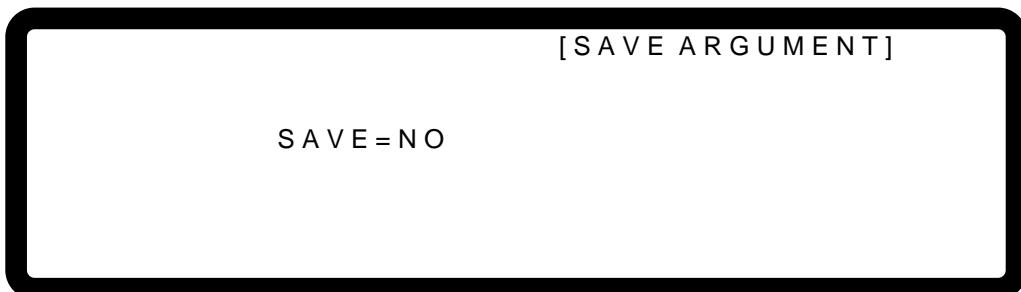

Figure 3-116
13. The current calibration is done once the above actions are completed. To save the calibration data, press “” to display the confirmation page as shown in Figure 3-116. Press “” or turn the “Rotary” () to set SAVE=YES and press “” to save it. If there is no need to save it, press “” to return to the Calibration screen.